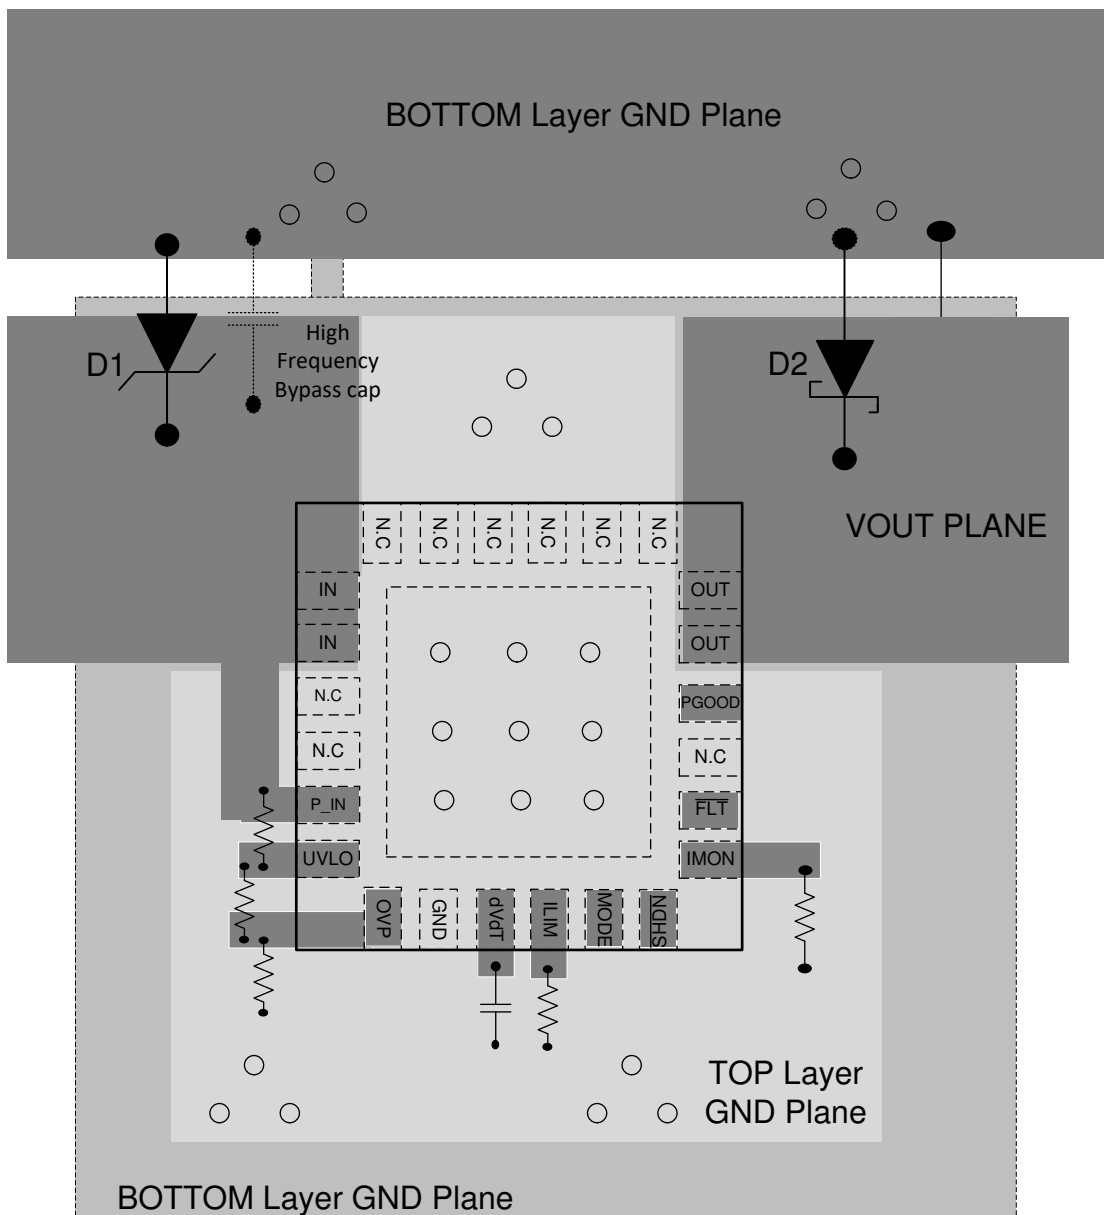
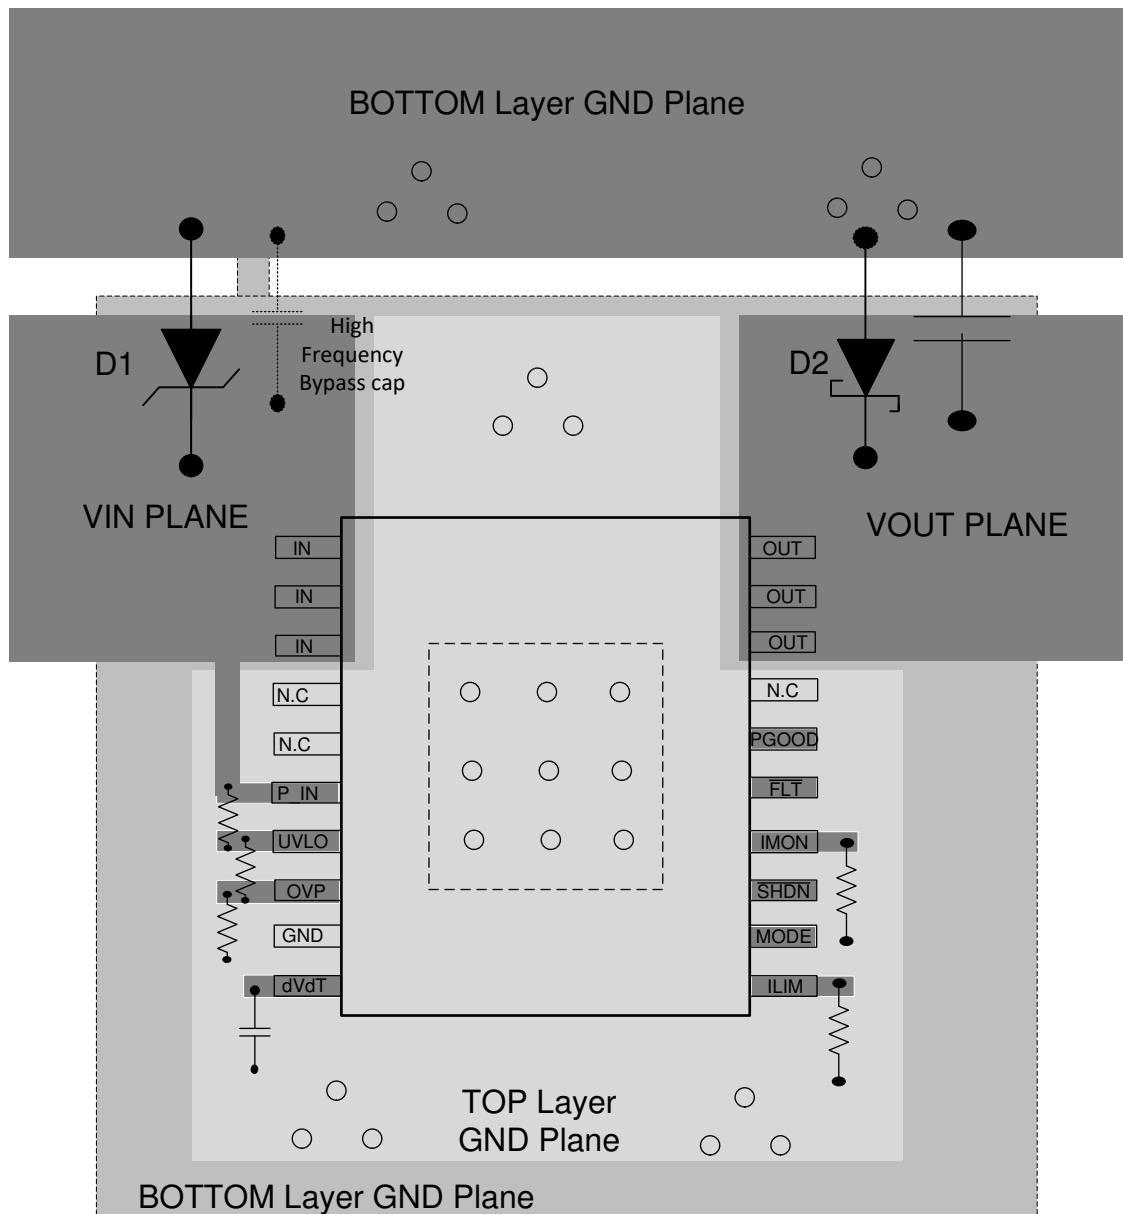

图 39. PCB Layout Example with QFN Package with a 2 Layer PCB
图 40. Typical PCB Layout Example with HTSSOP Package with a 2 Layer PCB
- High current carrying power path connections must be as short as possible and must be sized to carry at least twice the full-load current. See Figure 39 and Figure 40 for a typical PCB layout example.